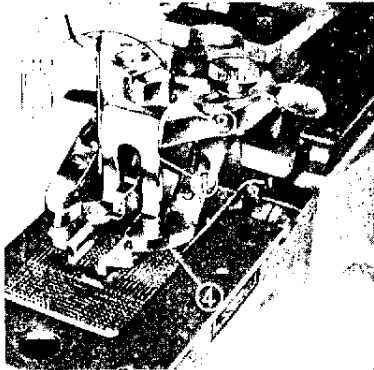

Fig. 30
(II) INSTALLATION DE LA PINCE POUR BOUTON ENTOURE - FIGURES 30, 31 & 32
1/ FIXATION DE LA PINCE - FIG. 30